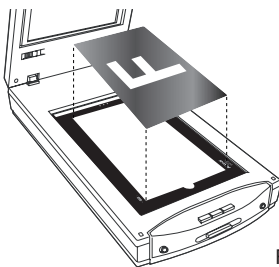

Figure 1
- For panoramic film, use the Panoramic X-Ray Film Holder (Figure 1).